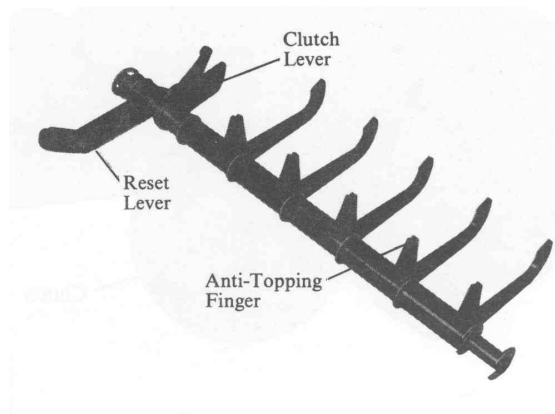
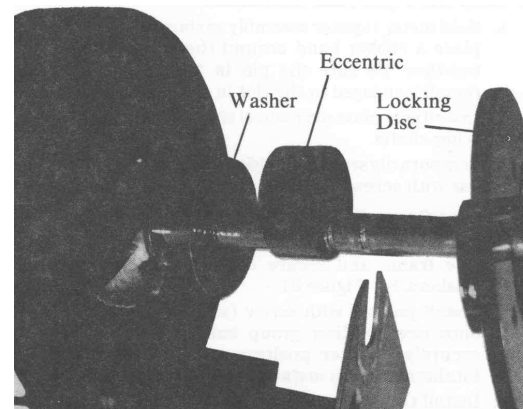
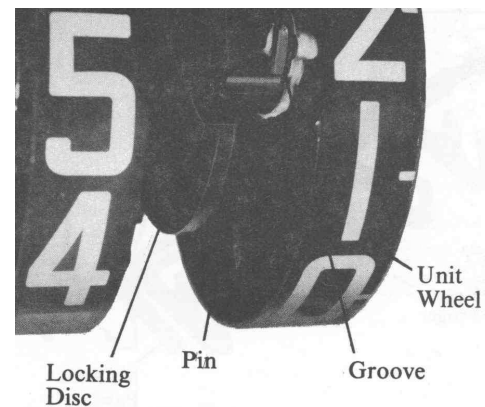
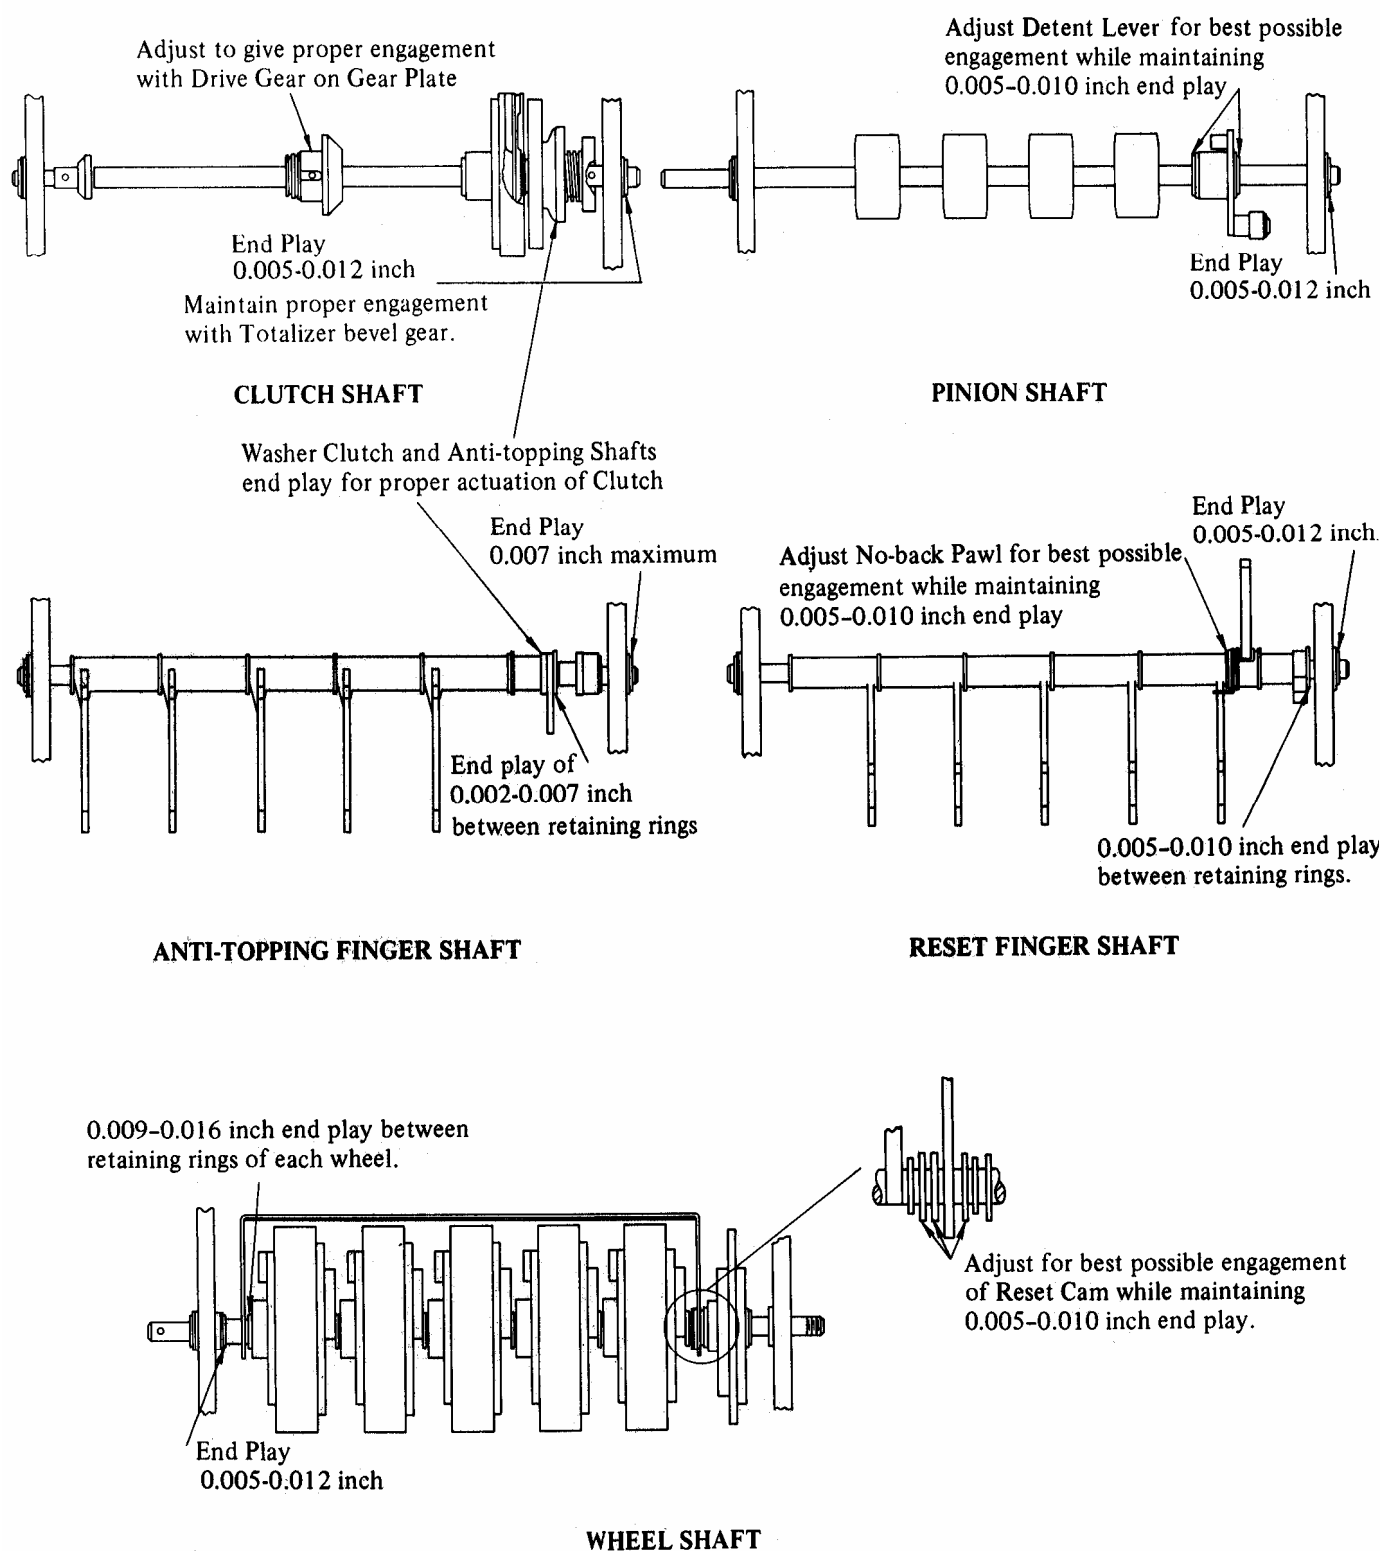

Figure 12. Anti-Topping Finger Group.
Figure 15. Locking Disc, Eccentric and Washer Removal and Installation
Figure 16. Unit Wheel Installation.
Figure 26. End Play Limits
- b. Replace defective items with new part. Assemble remaining parts on shaft. Install retaining rings and washers. Check end play per Figure 26.
3. Anti-Topping Finger Group Parts Replacement. See Figure 12. Individual anti-topping fingers, reset lever and clutch lever may be replaced as required.
- b. Install parts, retaining rings and washers in the sequence shown in Figure 12. Be sure to install parts so they are in the proper direction. Check end play per Figure 26.
- b. Install parts, retaining rings, washers and key in the sequence shown in Figure 15. When installing wheels, be sure the pin on the locking disc engages the groove in the wheel as shown in Figure 16. Check end play per Figure 26.
- Remove the retaining ring behind the bevel gear and add or subtract washers as required for proper mesh between the bevel gear on the gear plate and the drive bevel gear on the clutch shaft. The shaft end play must be maintained as specified in Figure 26.